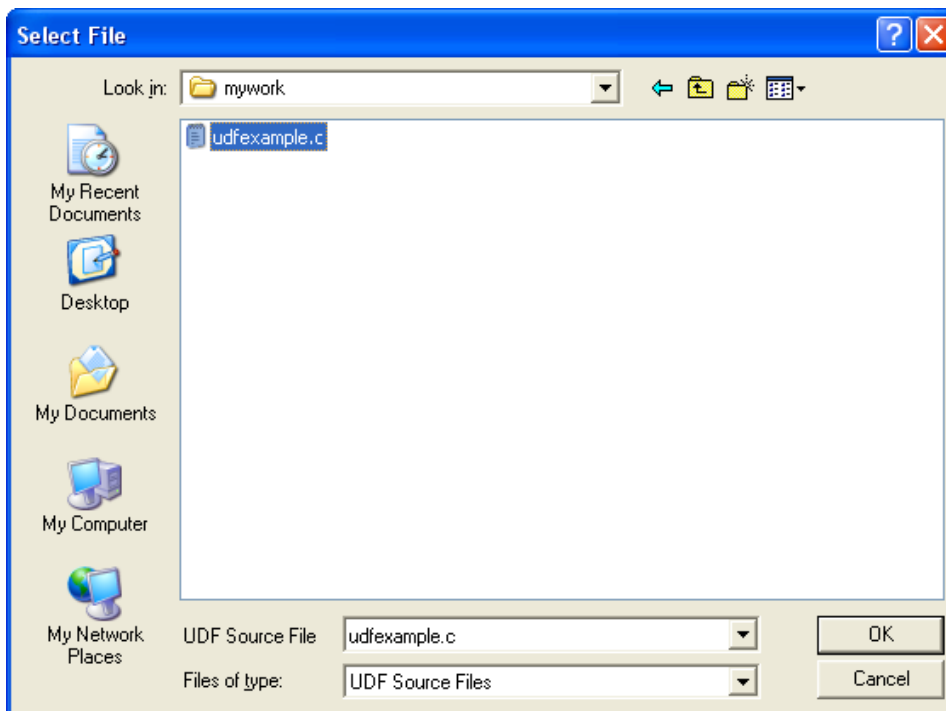

Figure 8.1.5: The Select File Panel
- In the **Interpreted UDFs** panel, select the UDF source file by either typing the complete path in the **Source File Name** field or click **Browse...** to use the browser. This will open the **Select File** panel (Figure 8.1.5).